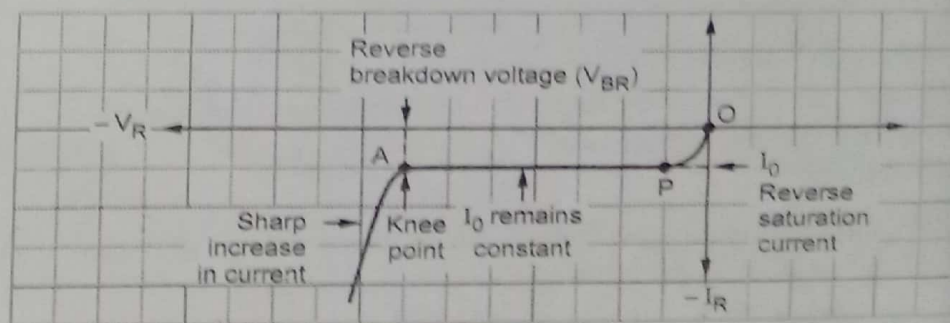

Fig. Q.6.2 Reverse characteristics of p-n junction diode
- As the reverse voltage is increased, reverse current increases initially but after a small voltage becomes constant equal to reverse saturation current I_0 . This point is shown as P, in the Fig. Q.6.2.
- The reverse characteristics is shown in the Fig. Q.6.2.